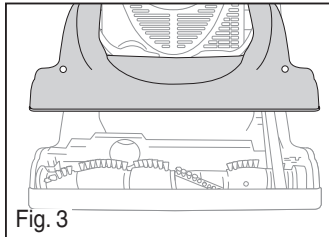

Fig. 3
- 2) Lift and remove brush roll cover (Fig. 3).
- 3) Hose inlet – remove two screws and brush roll cover. Clear blockage from hose inlet (Fig. 3).